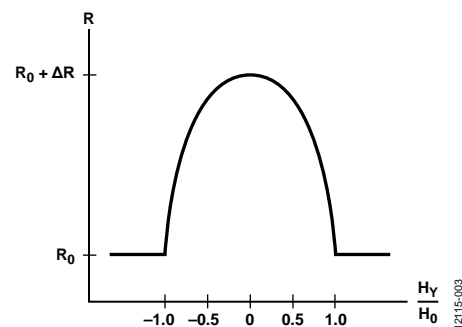

Figure 3. Permalloy Resistance vs. Magnetic Field
First, permalloy has a narrow linear operating region (see Figure 3). Only when the angle (θ) between the magnetization vector (M) and current flow vector (I) becomes larger, does the response become linear. Unfortunately, shortly after the response becomes linear, it saturates.